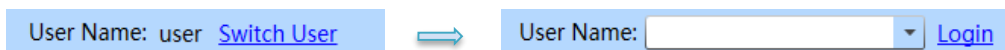

Figure D-2.1a Quick start bar - Login
- **Login:** user can click < **Switch User** > and enter the registered account name in the input box; or select a registered account name in the drop-down menu, and then click < **Login** > to log in as the current user account, as shown in figure D-2.1a.